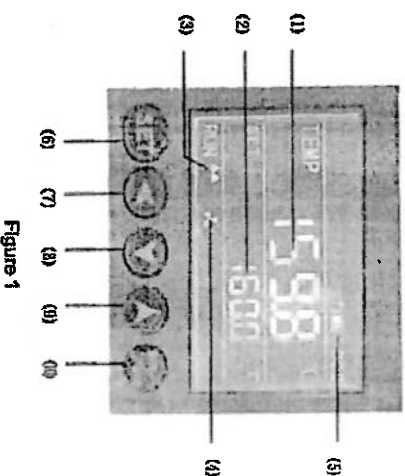

Figure 1
- 2.3 The controller enters the working mode after about 4 seconds of self-checking procedures. (Figure 1)